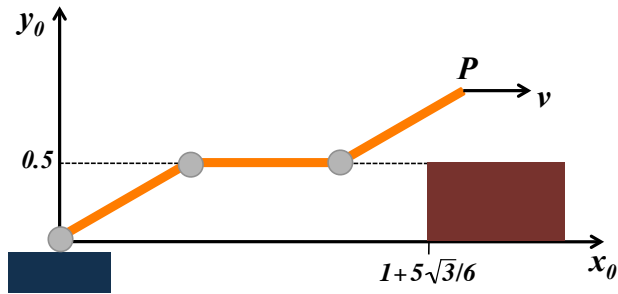

Figure 2: A planar 3R robot moving its end effector in the presence of an obstacle.
- In the shown configuration $\mathbf{q} = (30^\circ, -30^\circ, 30^\circ)$ and with a single obstacle placed as in Fig. 2, the robot end effector is assigned a unitary velocity \mathbf{v} in the positive x_0 direction. Specify one particular kinematic control scheme achieving at best both tasks, and provide the associated numerical value of the command vector $\dot{\mathbf{q}} \in \mathbb{R}^3$.